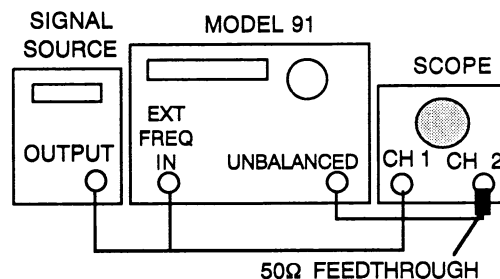

Figure 4-18. Phase Setup
1. The Model 91 display reads **PHASE 0 HHHHH**, where XXXXX represents a calibration value. Connect the test equipment as shown in figure 4-18.
1. The Model 91 displays **PHASE +180 XXXXX** where XXXXX represents a calibration value. Leave the test equipment connected as shown in figure 4-18. Do not change the signal source.
1. The Model 91 displays **PHASE -180 XXXXX**, where XXXXX represents a calibration value. Leave the test equipment connected as shown in figure 4-18. Do not change the signal source. The scope should not need adjustment.
1. The Model 91 displays **SQ PHASE 0 XXXXX** where XXXXX represents a calibration value. Leave the test equipment connected as shown in figure 4-18. Do not change the signal source.